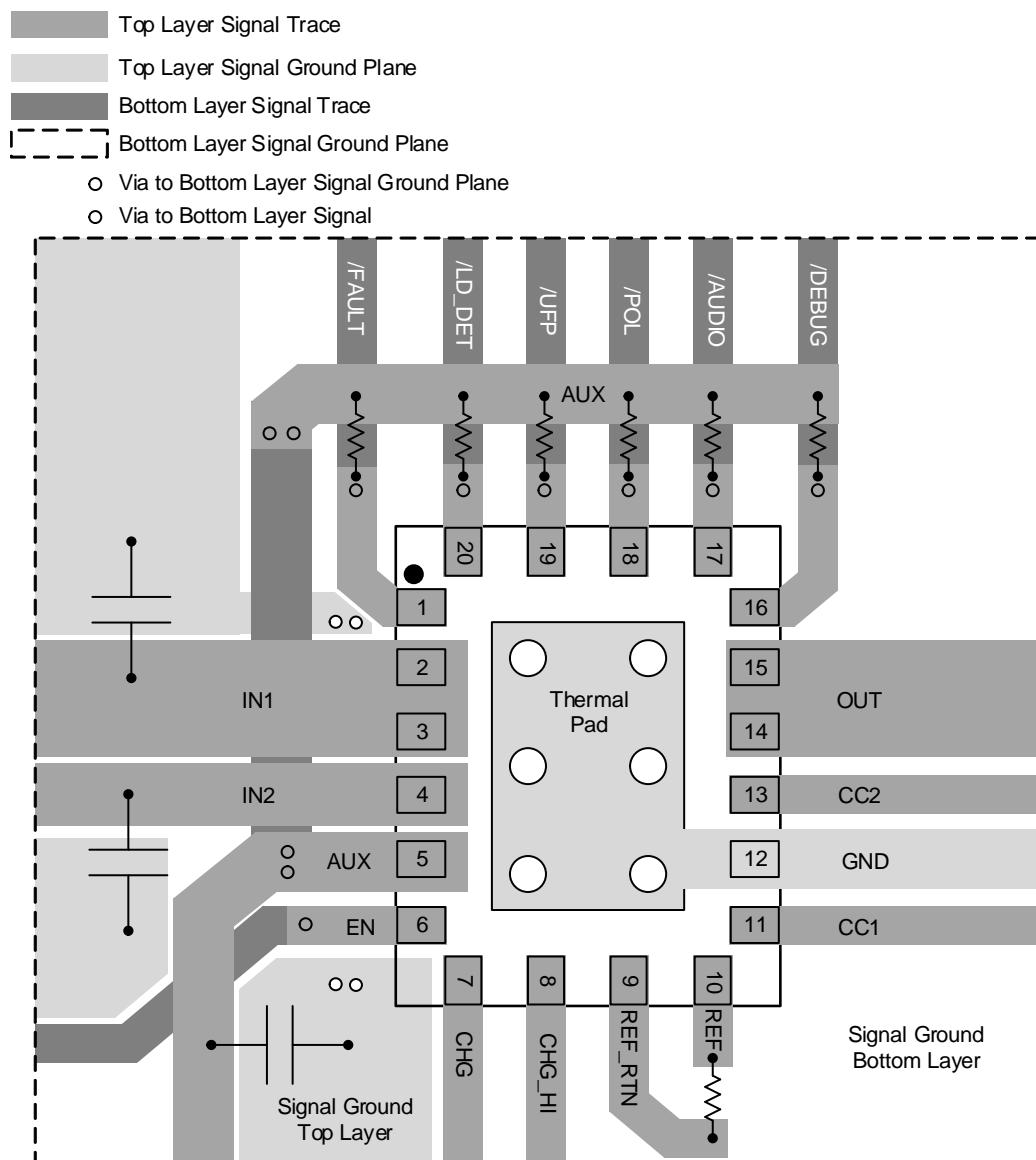

Figure 29. Layout Example
- Care must be taken to minimize the loop area formed by the bypass-capacitor connection, the IN1 pin, and the GND pin of the IC. See Figure 29 for a PCB layout example.
- The REF_RTN pin should be isolated from the GND plane. See Figure 29.